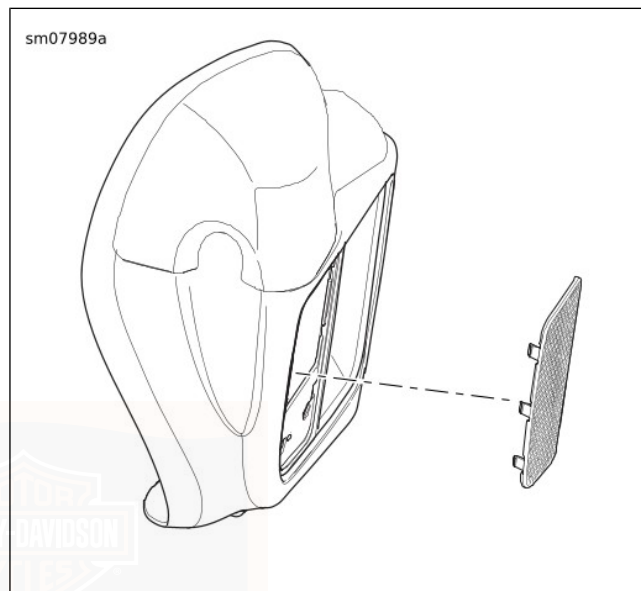

Figure 76. Lower Fairing Grille Panel
1. See Figure 76. Remove outer grille from lower fairing.